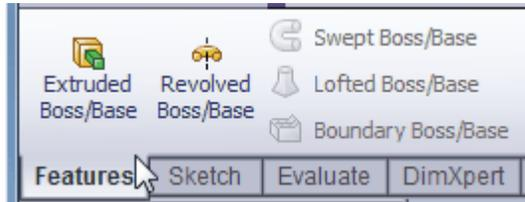

Figure 45 Clicking the Extruded Boss/Base tool on the Features toolbar
- 15 Click the **Features** tab on the CommandManager, and click the **Extruded Boss/Base** tool. See Figure 45.